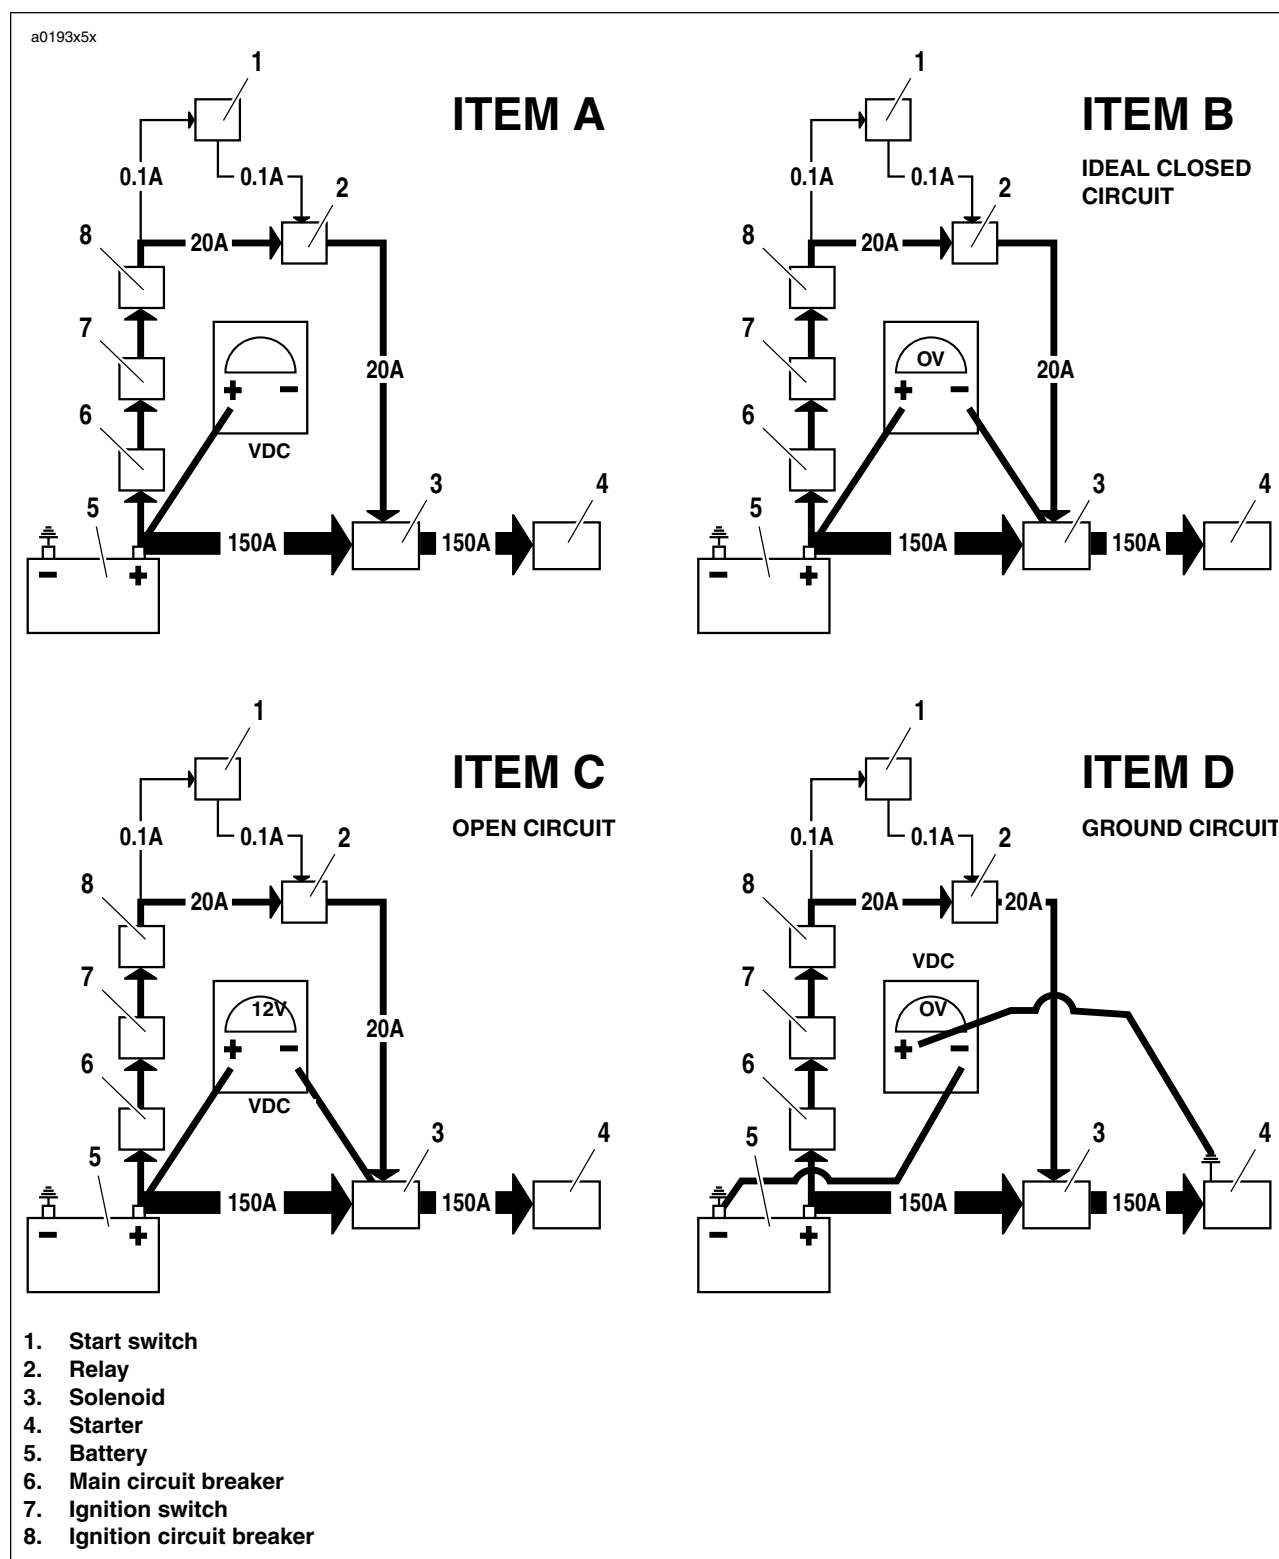

Figure 5-4. Typical Circuitry. (Refer to wiring diagrams for more information.)
1. See ITEM A in Figure 5-4. Attach your red meter lead to the most positive part of the circuit, which in this case would be the positive post of the battery (5).
2. See ITEM B in Figure 5-4. Attach the black meter lead to the final destination or component in the circuit (solenoid terminal from relay).
5. See ITEM C in Figure 5-4. An open circuit should read 12 volts, displaying all the voltage dropped, and the entire difference in potential displayed on the meter.
8. See ITEM D in Figure 5-4. The negative or ground circuit can be checked as well.